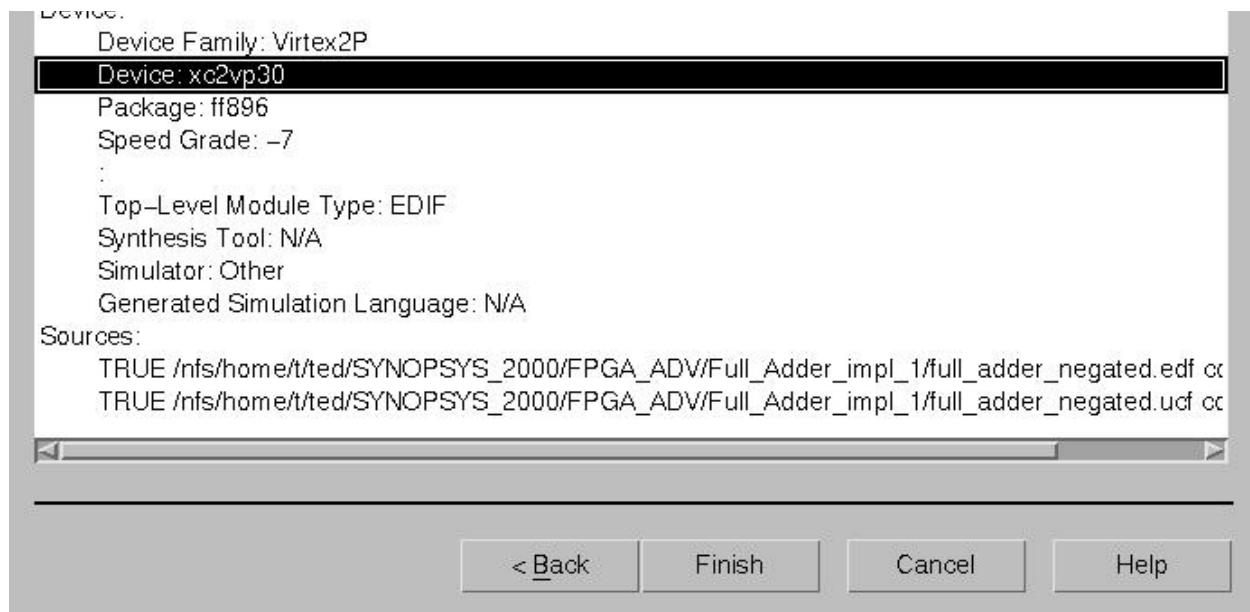

Figure 25: New Project Information window.
(6) In the New Project Information window select **Finish**. See Figure 25.